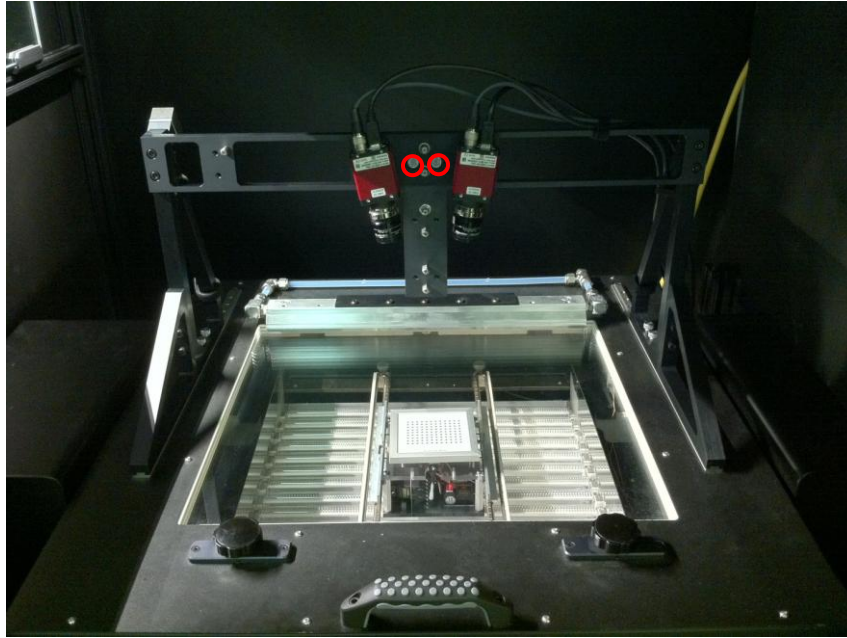

Figure 2.5 Fully Installed DIC system
9. Once the Camera Sub-Assembly is located on the pins and is flush with the Common Crossbar Mount Support, place two aluminum thumbscrews into the appropriate holes (marked by red circles in **Figure 2.5**) and tighten by hand.
10. Attach a trigger box cable and firewire cable to each camera. Secure them to the top of the Common Crossbar Mount Support using the supplied Velcro strap as shown in **Figure 2.5**.